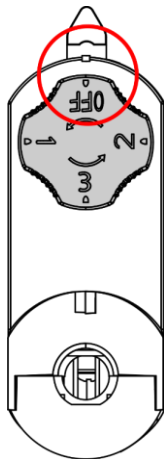

Fig. 16
- 01) Set the **color temperature switch (19)** to OFF position to turn the device off.
- 03) Make sure that the **circuit selector (03)** is in OFF position, as shown in Fig. 16.